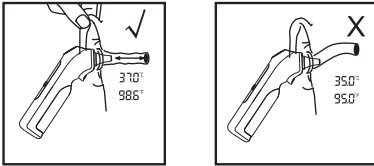

Figure 8
3. Insert the probe along the ear canal as deep as possible into the ear as depicted in Figure 8. Then press the Test BUTTON once to start the measurement. A long beep will sound approximately 1 second after the Test BUTTON is activated. This signals the end of the process as results are displayed on the LCD screen.